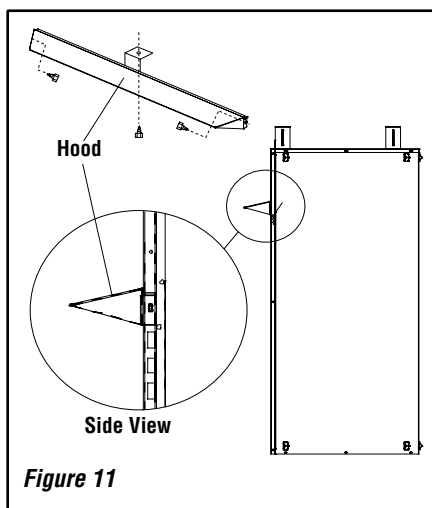

Figure 11
NOTE: A hood comes standard and is required. The factory-supplied hood must be installed on the firebox for safe operation in all installations. See Figure 11.
Step 2. Align the hood with the holes in the side frames as shown in **Figure 11**. Install three screws as shown in **Figure 11**. Make sure hood is level and secure.